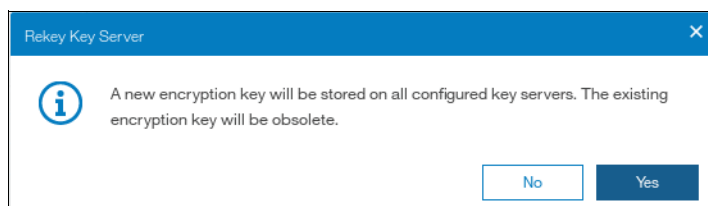

Figure 13-76 Confirm key server rekey operation
- Click **Yes** in the next window to confirm the rekey operation, as shown in Figure 13-76.